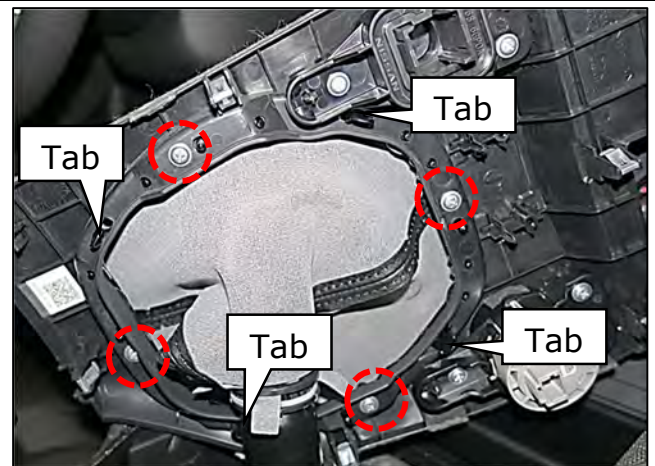
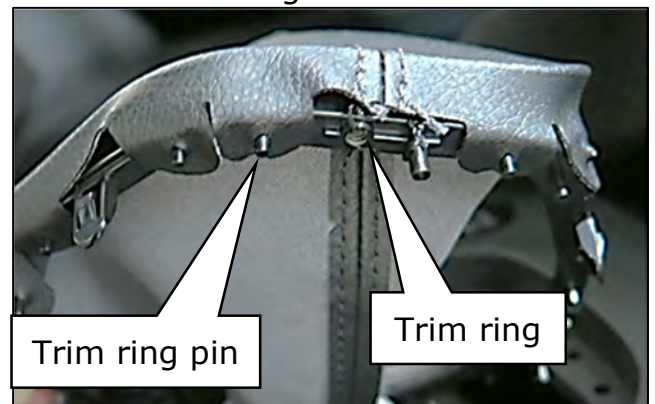

Figure 26
Figure 27
- Remove the (4) screws shown in Figure 26
- Carefully push upward on each of the (4) tabs
- Remove the shift boot trim ring from the shift boot by lifting the shifter boot off of each of the trim ring pins (Figure 27)